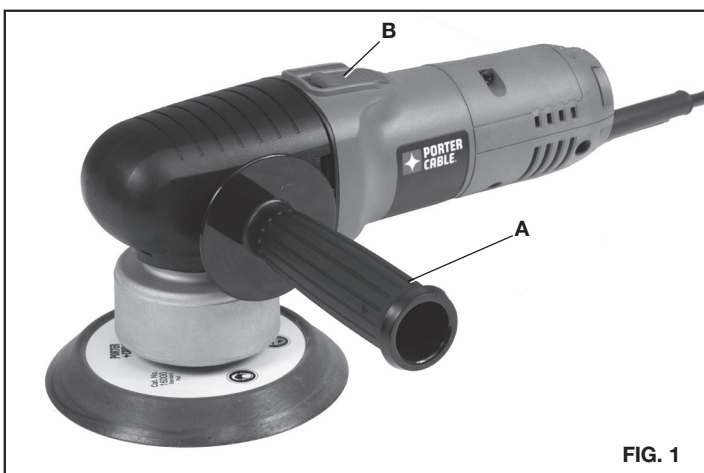

FIG. 1
An auxiliary handle (A) Fig. 1 is furnished with the tool. You can install the auxiliary handle on either side of the front housing to facilitate either right-handed or left-handed operation.
2. Slide the switch button (B) Fig. 1 forward to start the motor. Slide the switch button to the rear to stop the motor.